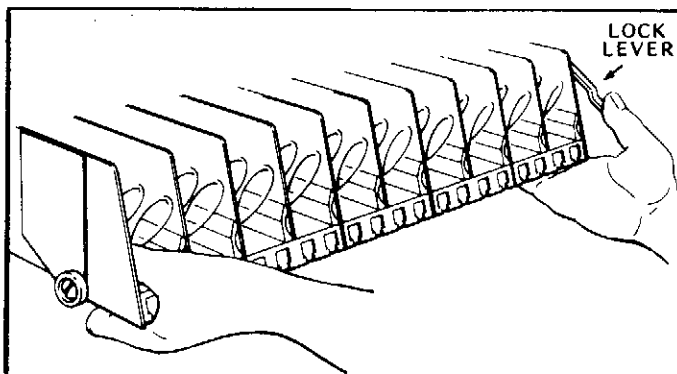

Figure 1. MOVING SHELF TO LOADING POSITION.
4. **LOADING SNACK SHELVES:** Open door to full open position, push down on white plastic lock lever (Figure 1) on right side panel by shelf to unlock shelf, holding lever down. Grasp the shelf, under both front corners (see Figure 1), lift front shelf slightly and pull forward until shelf reaches its stop. The shelves tilt down (do not drop) to make loading easier. Only one product shelf should be in the loading position at a time. When returning a shelf, be sure the shelf is in its full home or vend position. Begin loading with the top shelf. Move it to the loading position. The height spacing for items is greatest in this shelf and the tallest bagged items should be placed there. Soft items, such as pastry, pies, etc., should be placed in the lowest snack shelf, making the drop distance as short as possible.